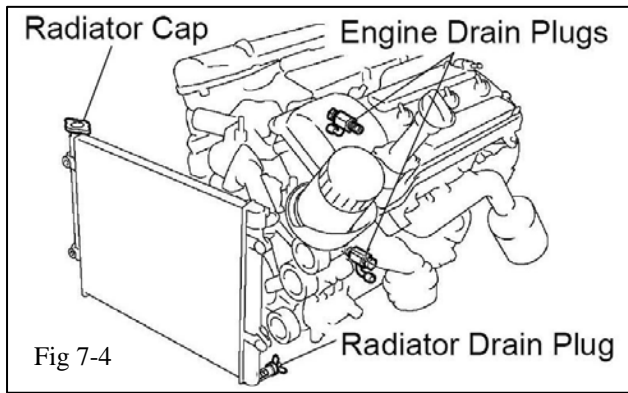

Fig 7-4
- iii. Loosen the three drain plugs on the engine and radiator and drain the coolant into a clean container (Fig 7-4). Save the coolant as it will be reused.